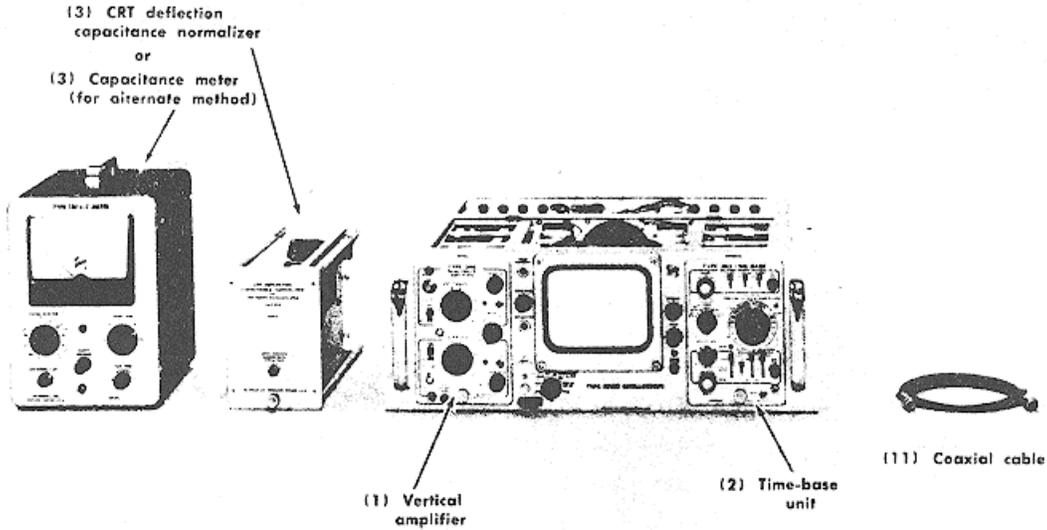

Fig. 5-11. Test equipment required for step 17.
- a. Test equipment required for step 17 is shown in Fig. 5-11. The illustrated equipment is keyed to that listed under Test equipment Required.